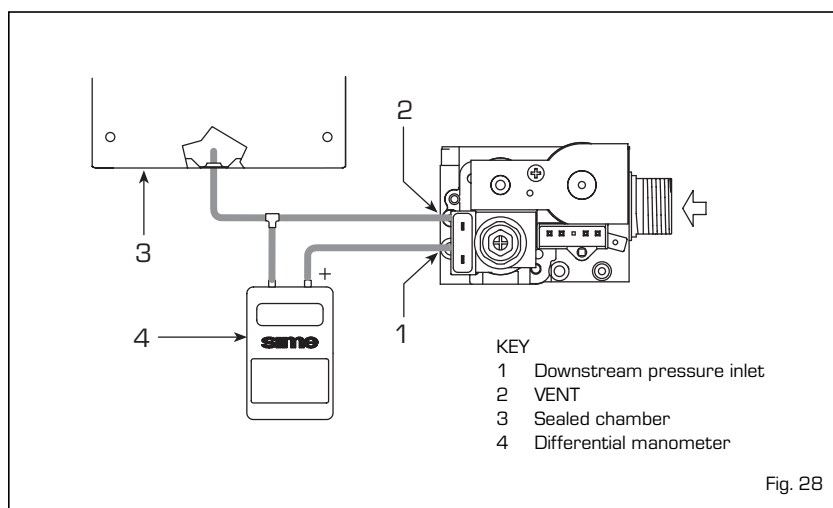

Fig. 28
- In the "BF" versions, instead, connect the manometer as shown in fig. 28.
- Remove the plastic cap of the modulator (1).
- Using a \varnothing 10 wrench turn the nut (3) to find the maximum pressure as shown in **Table 4**: to reduce the pressure turn the nut anti-clockwise, to increase the pressure turn the nut clockwise.
- For the "BF" models connect the pressure column as shown in fig. 28.
- Remove the plastic cap on the modulator (1).
- Using a $\varnothing 9$ spanner, turn the nut (3) to achieve the maximum pressure value given in **Table 4**: to reduce the pressure, turn the nut counterclockwise; to increase the pressure, turn it clockwise.